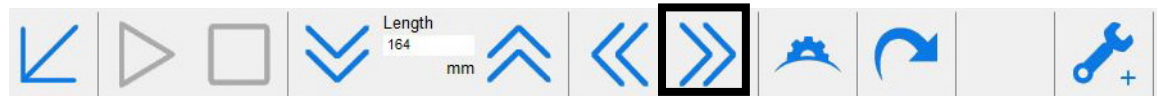
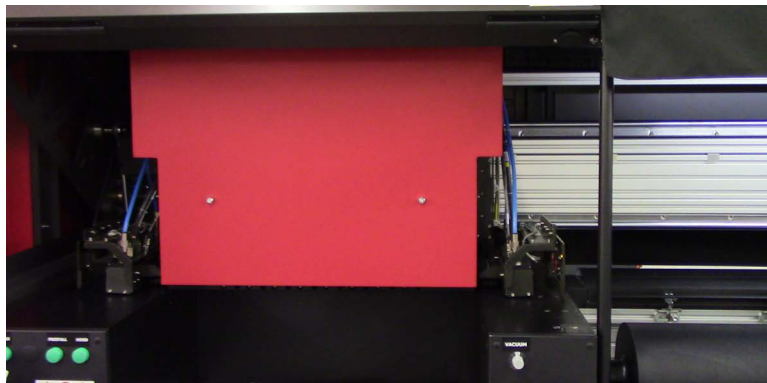

Figure 5-6 Front End Software Toolbar, Carriage Right button highlighted
Figure 5-7 Accessing the Ink Sink
1. From the printer front end, click and hold the **Carriage Right** button, highlighted, Figure 5-6, so that the ink sink is completely exposed, Figure 5-7.